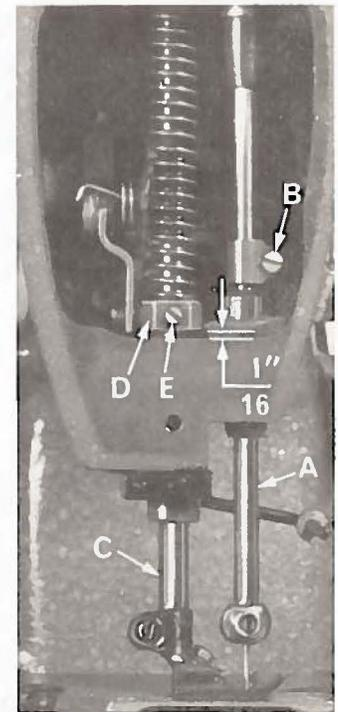
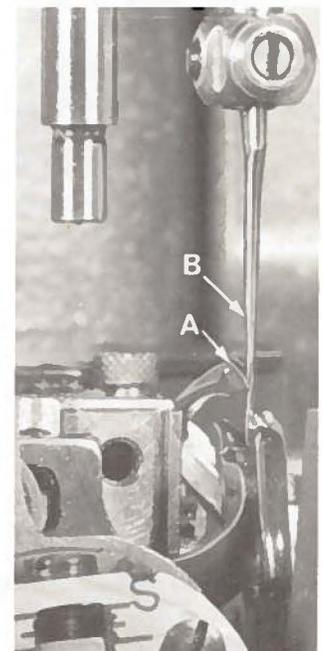
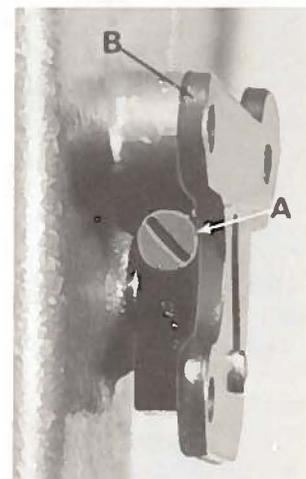

Fig. 4
Fig. 7
Fig. 12
Align the needle bar (A, Fig. 4) and set to height, using the proper test pins and test plate of the right gauge.
If test plate and test pins are not available, insert a new set of needles (Type and Size as required) and align the needle bar so that the needles correspond with the vertical face of the needle guard. To turn needle bar, loosen needle bar clamp screw (B, Fig. 4) and turn bar as required. Tighten clamp screw.
The looper is set correctly in line-of-feed, if, as it moves to the left, behind the needle, its point (A, Fig. 7) brushes, but does not pick at the rear of the needle (B).
The height of the needle (B, Fig. 7) is correct when the top of its eye is 3/64 inch below the underside of the looper, with the looper point flush with the left side of the left needle. If adjustment is necessary, loosen screw (B, Fig. 4) and move needle bar (A) up or down as required and retighten screw. Care should be taken not to disturb the alignment of the needle bar when moving the needle bar either up or down.
If adjustment is needed, loosen tension release lever screw (A, Fig. 12), located at the back of the machine and move tension disc separator as required. Retighten screw. After adjustment there should be no binding at any point.
The height of the presser bar (C, Fig. 4) is set correctly if it is possible to remove the presser foot when the foot lifter lever (B, Fig. 12) is fully depressed. Also there should be approximately $1/16$ inch clearance between lower surface of the presser bar connection and guide (D, Fig. 4) and the bottom surface of head opening in the bed when the foot lifter lever is released and the presser foot resting on the throat plate, with the feed dog down below the throat plate.